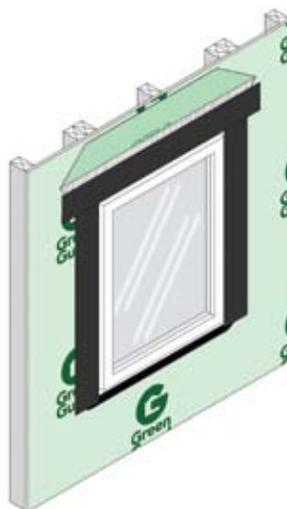
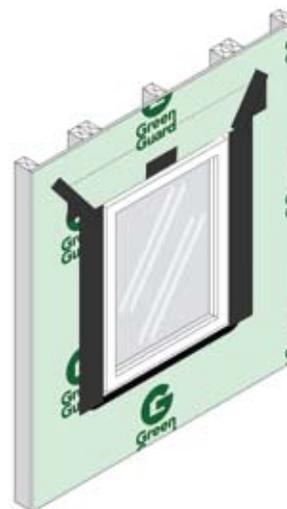

FIGURE 4E: INSTALLATION OF WINDOW HEAD FLASHING
FIGURE 4F: FINISHING OF WINDOW HEAD FLASHING
5. Install the head flashing so that it overlaps and extends beyond the jamb flashing. Fold the building wrap down at the header so that it overlaps the head flashing (see Figure 4E). As part of the enhanced installation, seal the diagonal cuts with a section of GreenGuard Flashing. Also install a 3-inch section of flashing at the center of the header flap to hold the wrap in place (see Figure 4F).